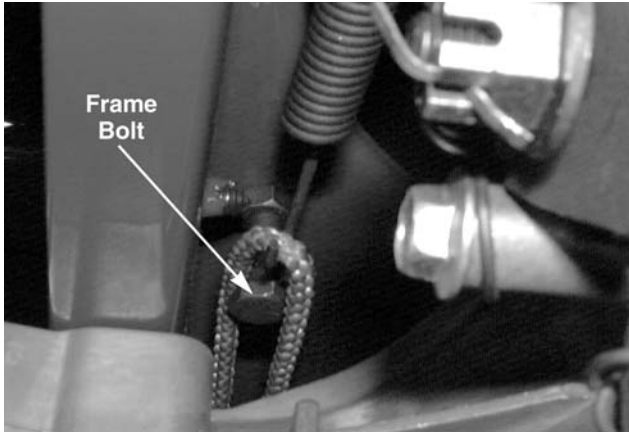

Figure 9-56
17. Remove the neutral return spring from the frame bolt using a piece of recoil rope. See Figure 9-56.